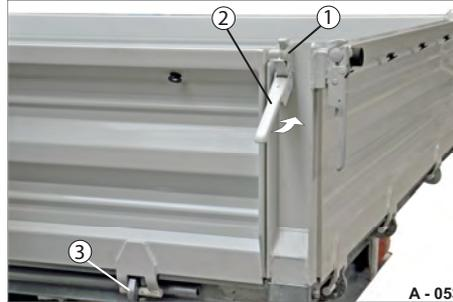

Fig. 34 Disassembling platform gate
- ▶ Insert the platform gate in the bearing points of the posts (Fig. 34/1).
- ▶ Close the upper locks (Fig. 34/2).
- ▶ Lock the lower platform gate with the pendulum central locking system (Fig. 34/3).